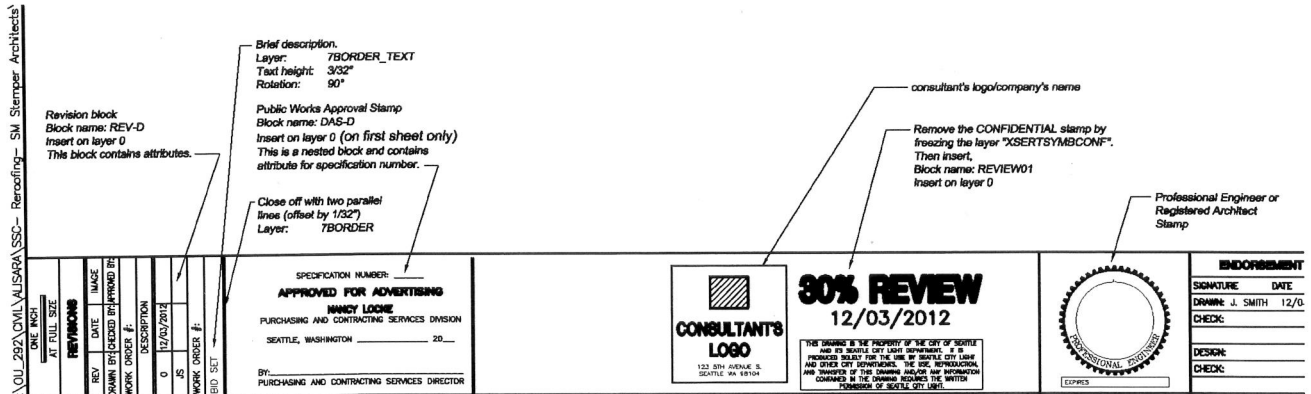

Figure 6
- See **Figure 6** for general arrangement of revision and Public Works Approval blocks.